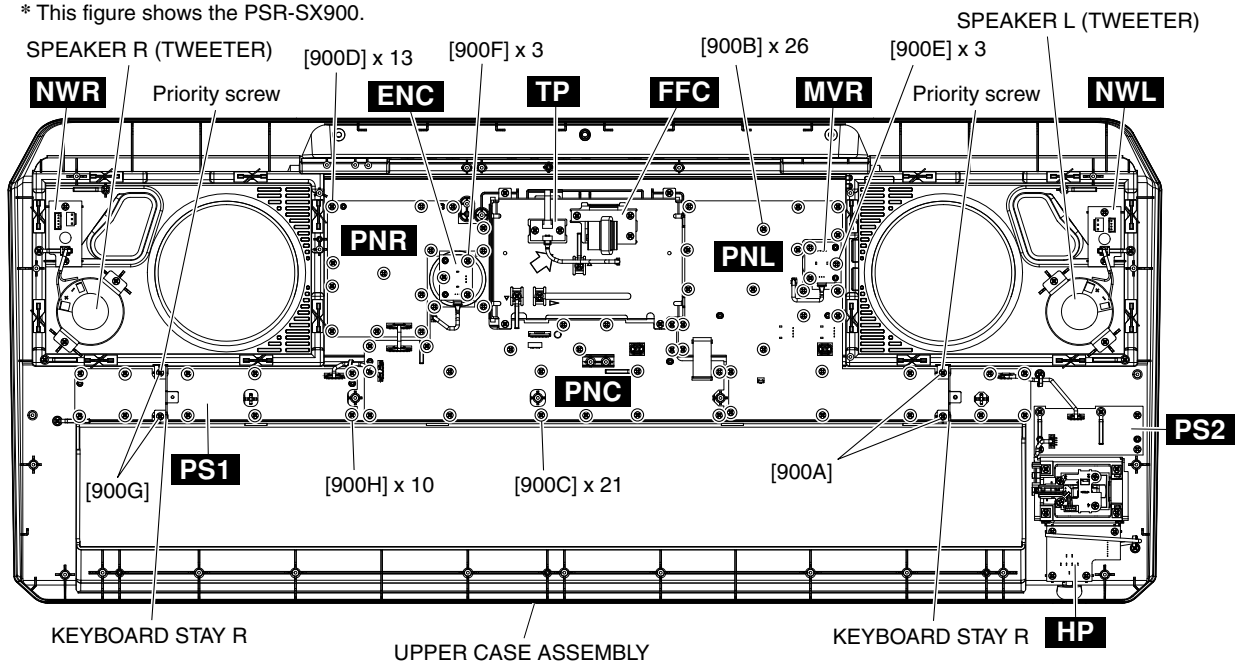

Fig. 7
- 8-5. Remove the two (2) screws marked [900A]. The keyboard stay R can then be removed. (Fig. 7)
- 8-6. Remove the twenty six (26) screws marked [900B]. The PNL circuit board can then be removed. (Fig. 7)
- 9-4. Remove the twenty one (21) screws marked [900C]. The PNC circuit board can then be removed. (Fig. 7)
- 10-4. Remove the thirteen (13) screws marked [900D]. The PNR circuit board can then be removed. (Fig. 7)
- 11-4. Remove the three (3) screws marked [900E]. The MVR circuit board can then be removed. (Fig. 7)
- 12-3. Remove the three (3) screws marked [900F]. The ENC circuit board can then be removed. (Fig. 7)
- 13-3. Remove the two (2) screws marked [900G]. The keyboard stay R can then be removed. (Fig. 7)
- 13-4. Remove the ten (10) screws marked [900H]. The PS1 circuit board can then be removed. (Fig. 7)